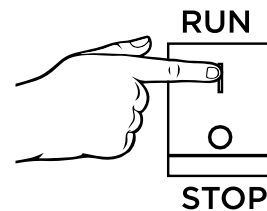

Figure 4: Engine control switch - RUN
6. Push the engine control switch into the **RUN** position (see Figure 4).